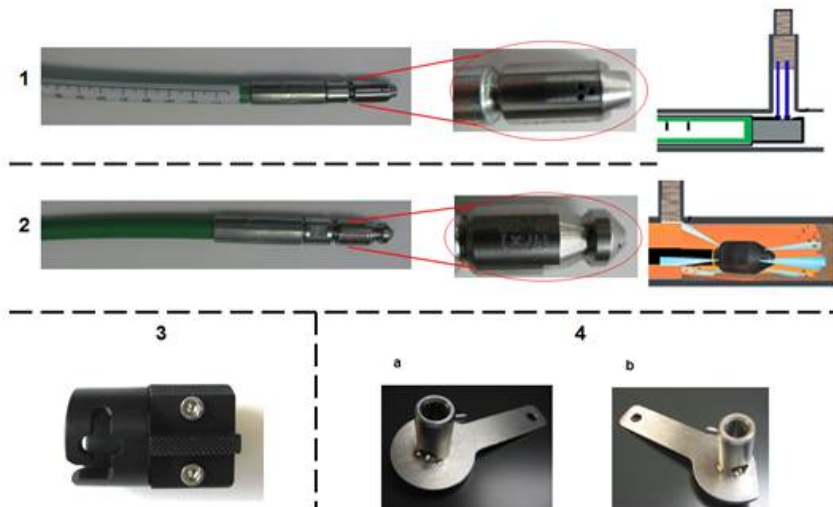

Figure 9. Special tool set VAS6825
- Special hose with scale for cleaning single ports (Figure 9,1)
- Special hose for cleaning the main ports (Figure 9,2)
- Hose adaptor for the special hose with scale (Figure 9,3)
- Engine adaptor for bank one (Figure 9, 4a)
- Engine adaptor for bank two (Figure 9, 4b)